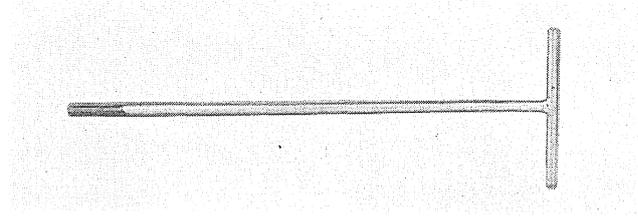

Fig. 4-3-9
- 2) By using a front fork puller, set the front fork in position, and tighten the lower bracket mounting bolt. (Figs. 4-3-9 and 10)